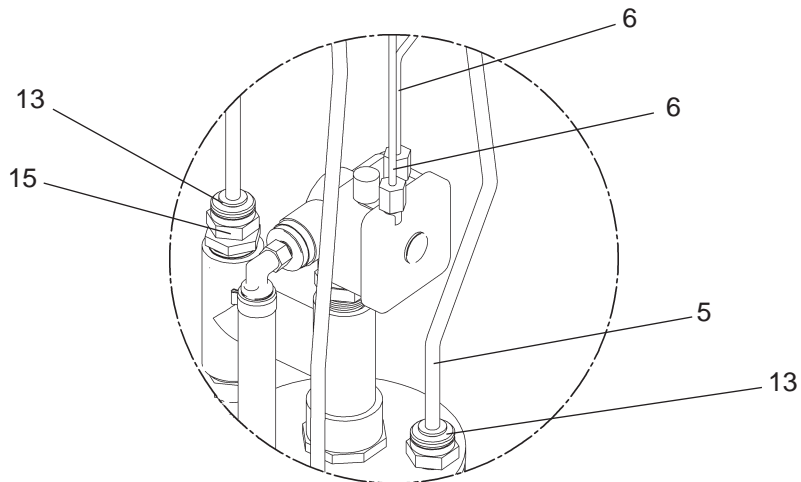

**FIG. 4**
- Remove the cleanout plug from the PVC column. Remove the valve assembly from the PVC column by carefully pulling up on the strap and connecting tubing at the same time. Pressure test the valve assembly for leaks. Check stream height from the bubbler. Stream height is factory set at 35 PSI. If supply pressure varies greatly from this, adjust the screw on the regulator (Item 11, Page 10, Fig. 4). Clockwise adjustment will raise stream and counter-clockwise adjustment will lower stream. For best adjustment stream height should be approx. 1-1/2" (38mm) above the bubbler guard. Replace the valve into the PVC column. Make sure the supply hose coils into the bottom of the PVC column without any kinks and double check that the valve is positioned fully at the bottom of the PVC column. Cap the PVC column.